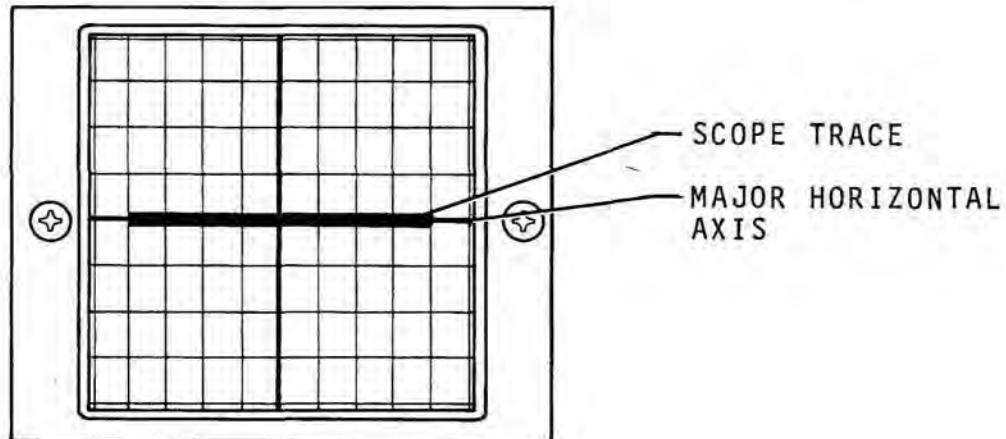

Figure 3-4 Scope Trace Centered Over Major Horizontal Axis
3. Set PWR/OFF/BATT Switch (11) to either "PWR" or "BATT". Allow a 30 second warm-up time from a cold start, as trace will not become visible until CRT achieves warm-up.
4. Adjust INTENSITY Control (37) and FOCUS Control (39) to obtain a sharp visible trace display.
5. Adjust HORIZ Control (38) and VERT Control (40) to center trace over major horizontal axis of CRT Display (36) as shown in Figure 3-4.